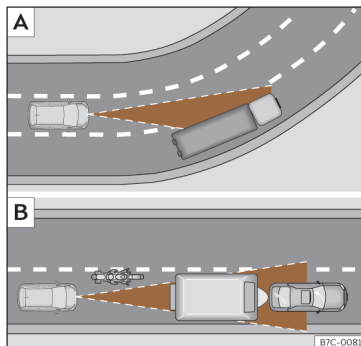

Fig. 131 **A** Vehicle on a bend. **B** Motorcyclist ahead, out of range of the radar sensor.
The ACC may not detect the vehicle in front on a curve, or may regulate the distance from vehicles in other lanes >>> **Fig. 131 A**.
- Vehicles that are not aligned while driving or that are outside the sensor's detection area, such as motorcycles >>> **Fig. 131 B**.